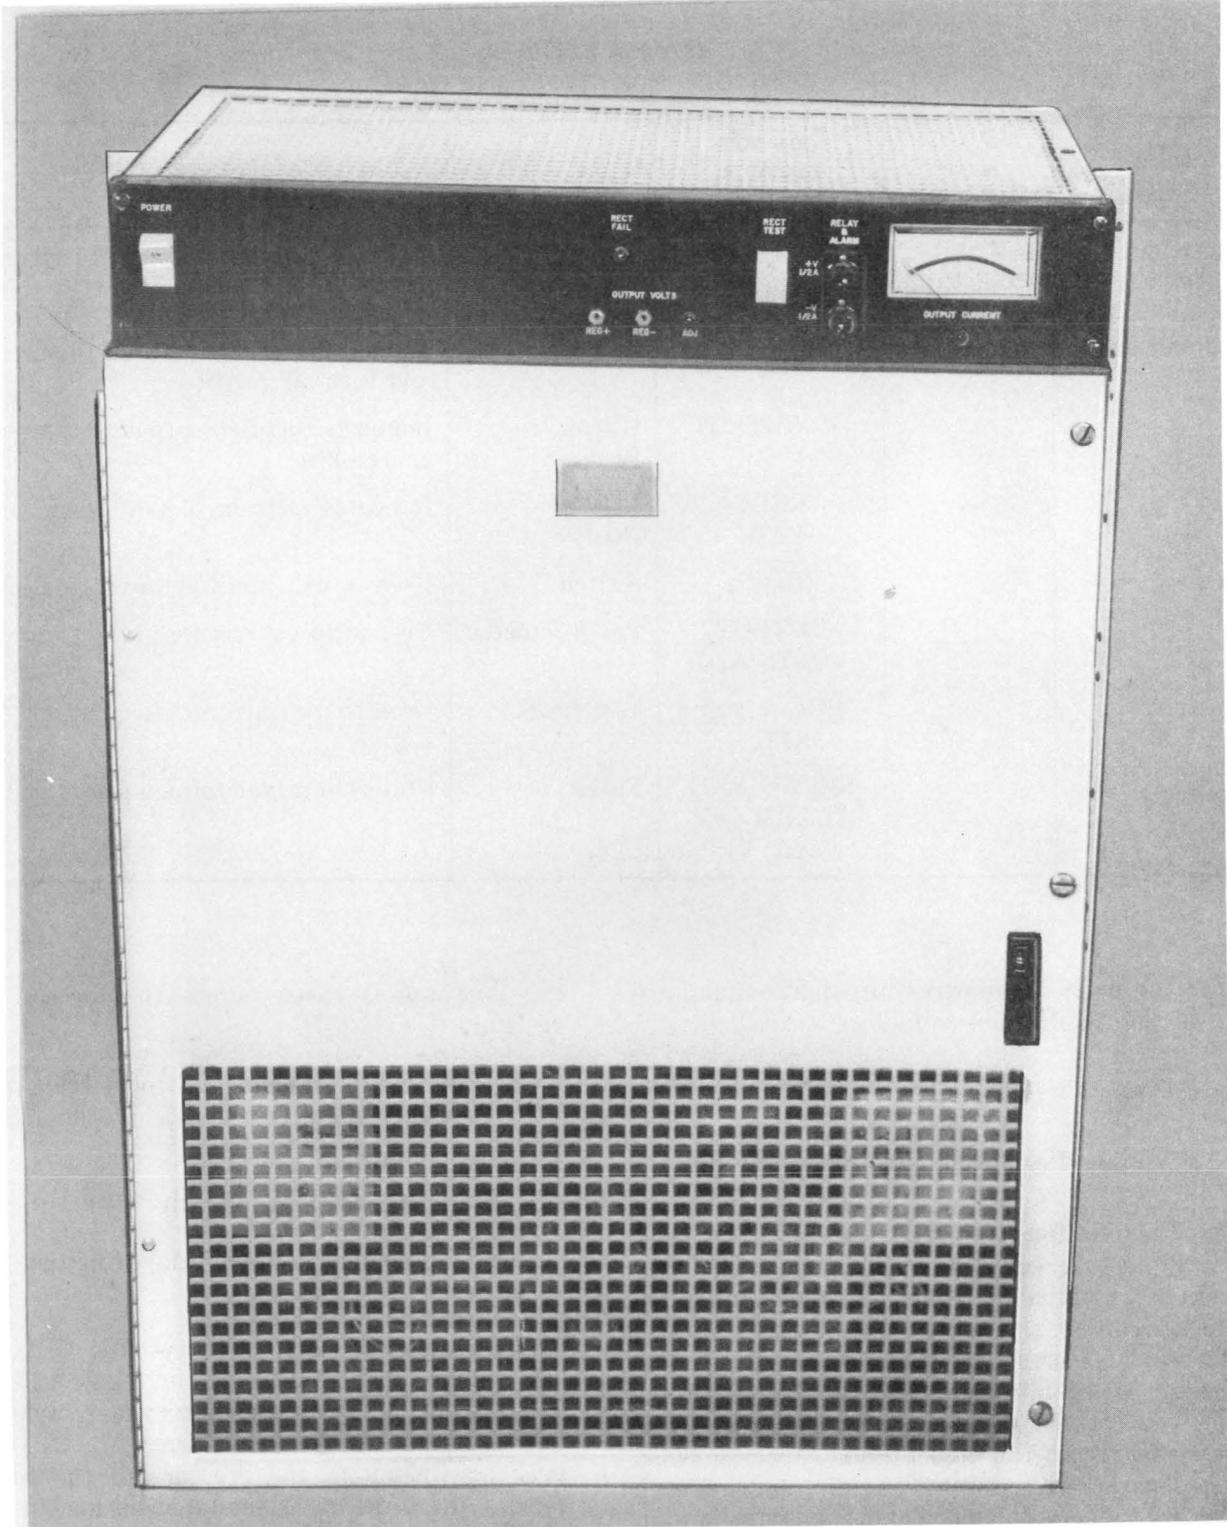

Fig. 4—J87437A, L1 and L3, or L2 and L3, Rectifier
**2.04** The rectifier control panel holds the ON-OFF and test switches, the output voltage adjust potentiometer, the internal sense lead fuses (+V and -V), and the output ammeter ( Fig. 4). The panel is removable for access when service is required. See Table C for a complete list of controls, indicators, and fuses on the J87437A rectifier.